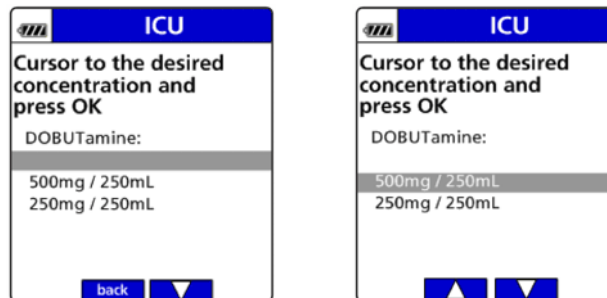

Figure 32. Drug Concentration Selection Screens.
6. Move the cursor to the correct drug concentration (if more than one is offered) and press **OK**. See Figure 32.